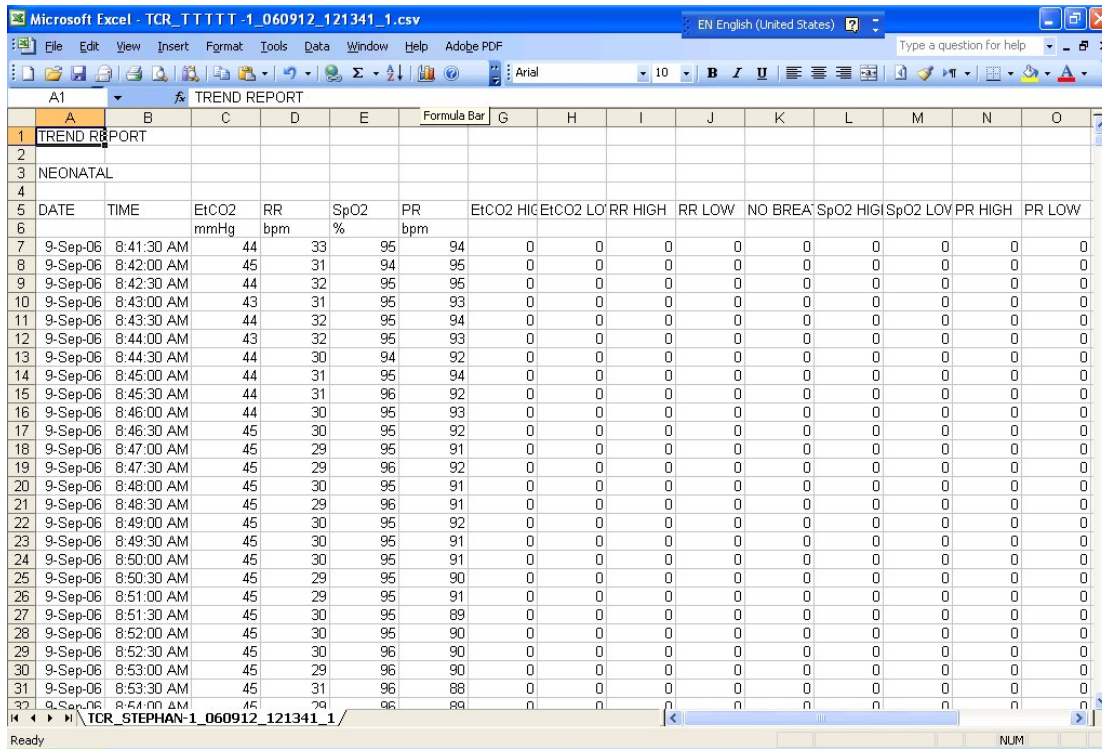

Figure 49. Typical Trend Report Microsoft Excel™* File
The tab delimited text file produced by The Capnostream™ monitor provides one line of data for each time point in the patient file. For example, the file seen in Figure 49. Typical Trend Report Microsoft Excel™* File on page 135, shows one line of patient data every thirty seconds. This data will display the patient values for the displayed patient parameters at that point in time. In this example, the first line of Figure 49 shows that at 8:41:30 AM on September 9, 2006, the patient's EtCO₂ value was 44 mmHg, his respiration rate was 33 bpm (beats per minute), his SpO₂ was 95%, and his pulse rate was 94 bpm. The zero (0) listed in each alarm column for the patient at this point in time (in EtCO₂ HIGH, EtCO₂ LOW, and so forth) indicates that there was no